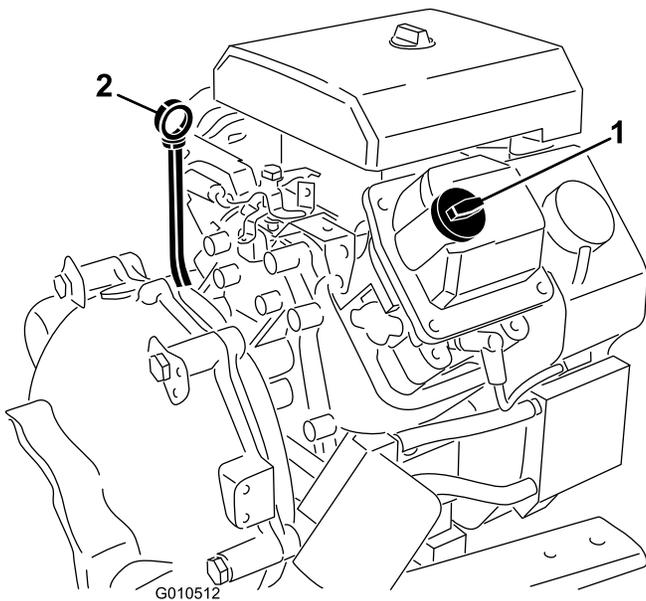

Figure 9
2. Remove the dipstick (Figure 9) and wipe it with a clean rag.
5. If the oil level is low, remove the filler cap (Figure 9) and add enough oil to raise the level to the Full mark on the dipstick.